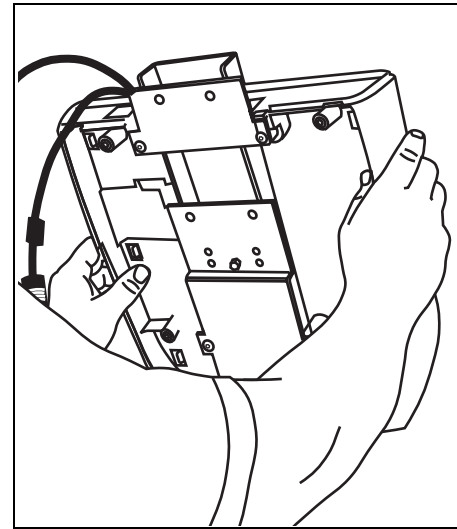

Figure 7: Separate display console face
4. Separate the display console face from the console. See Figure 7. Start at the top and work toward the bottom by pressing in on five of the tabs that secure it. This provides easier access to the 5-pin connector.